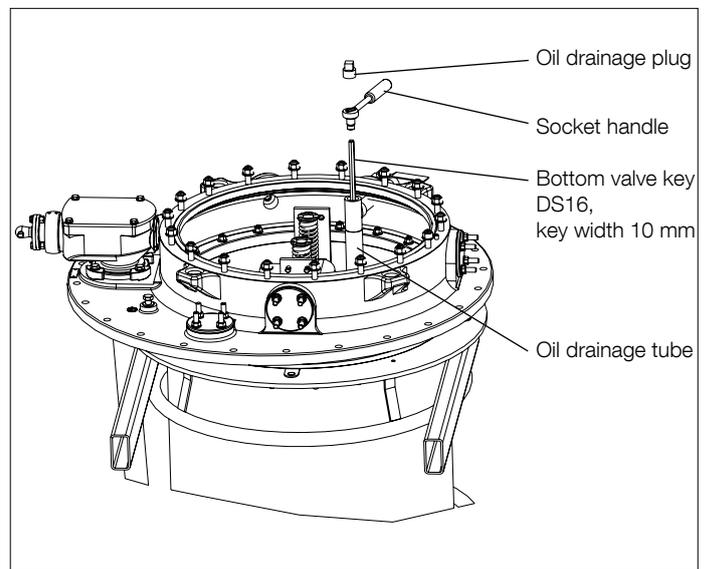

Fig. 14.
6. If the vapor phase process will be used: Remove the plug in the T-coupling for the oil drainage tube. To open the bottom valve, let the bottom valve key (DS16), slide down through the oil drainage tube, and when it has gripped the valve, rotate it in a counter-clockwise direction until it stops after approximately 6 turns; see Fig. 14. Refit the plug.
9. Mount the oil drainage tube; see Fig. 14. If a pipe wrench is used, there must be cloth protection between the wrench and the tube.
During the vapor phase process, the bottom valve of the diverter switch housing should be open. To open the bottom valve, proceed as follows; see Fig. 14: